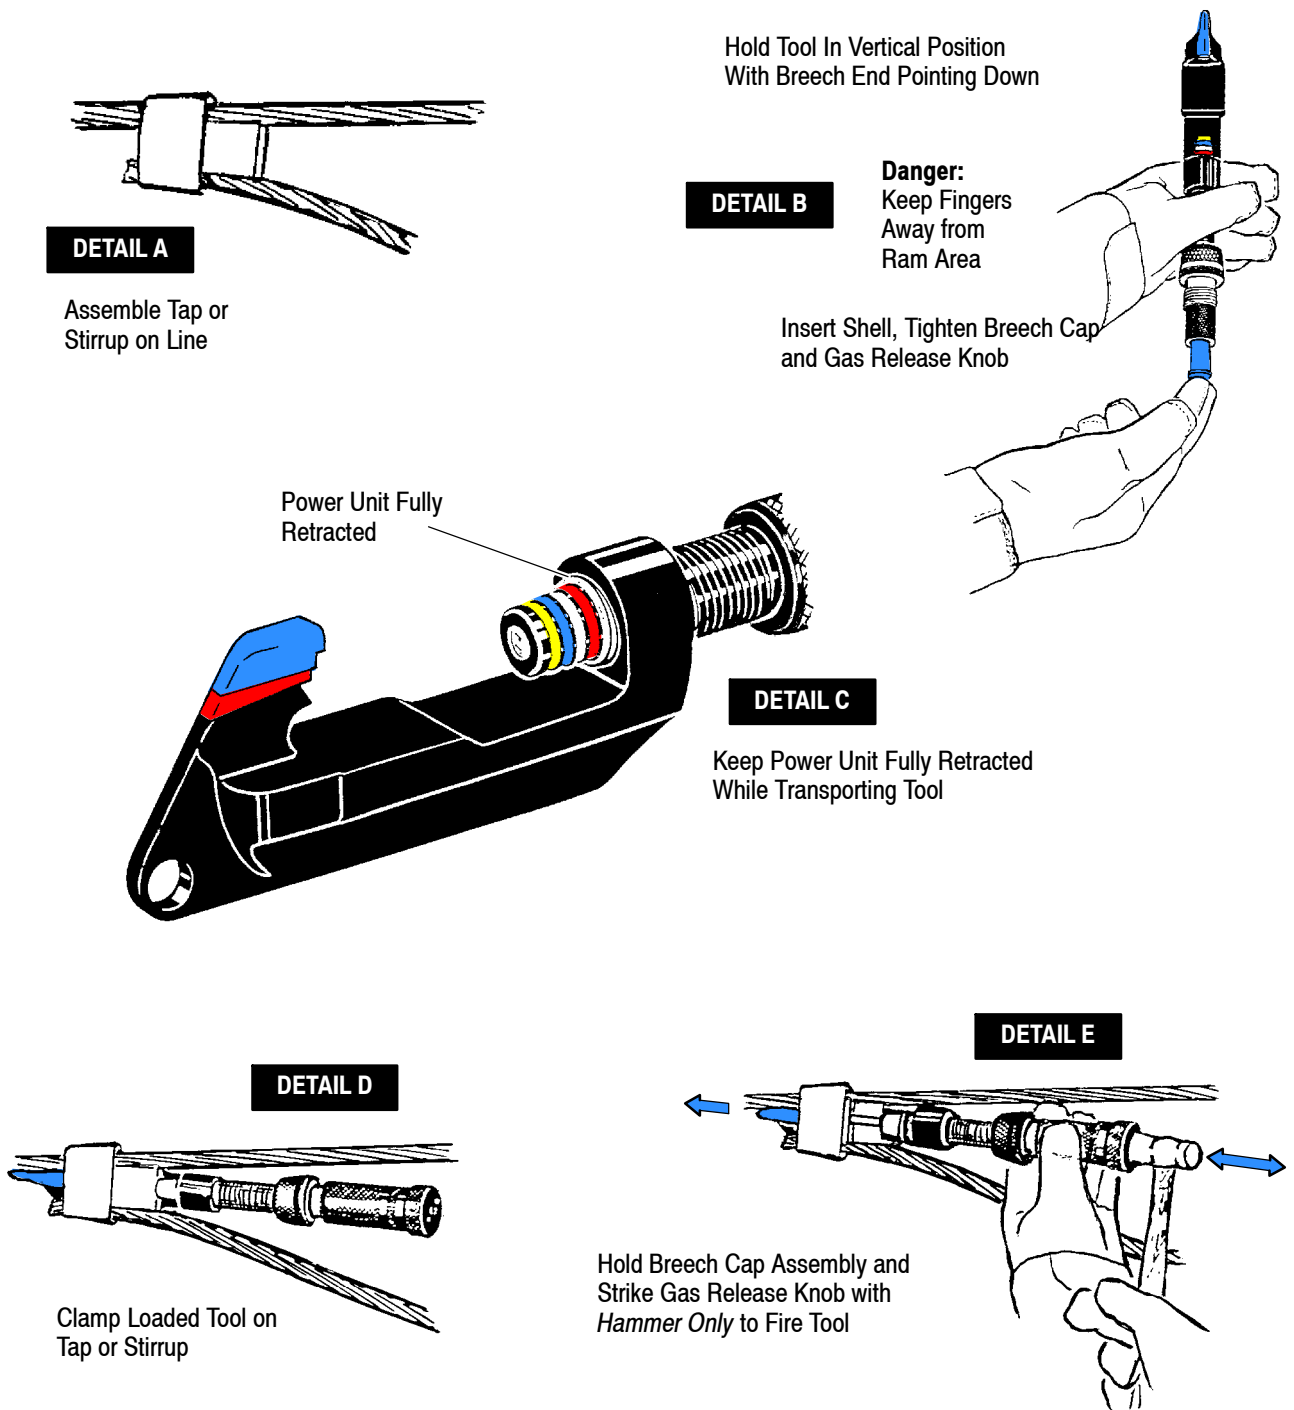

Figure 9
These precautionary procedures will become natural and automatic by constant use. Refer to Figure 9 and also refer to Figures 36 through 43 for proper testing and inspection of the “Fail Safe.”
2. Always keep power unit fully retracted (see Figure 9, Detail C) while transporting tool or until ready to install or remove a connector. If the tool is accidentally dropped and fired with power unit ram fully retracted, the soft aluminum crush sleeve will absorb the force of ram travel and prevent additional damage to the tool. See Paragraph 7.2.
4. Always insert shell vertically (open end facing up; see Figure 9, Detail B). Replace and tighten breech cap and gas release knob **before** mounting the tool on tap or stirrup.
7. Always use a hammer to fire the tool. Never use a wrench or pliers. See Figure 9, Detail E.
9. Never allow hands to come in contact with tap or stirrup when firing the tool. Hold the knurled breech cap assembly to steady the tool when firing. See Figure 9, Detail E.